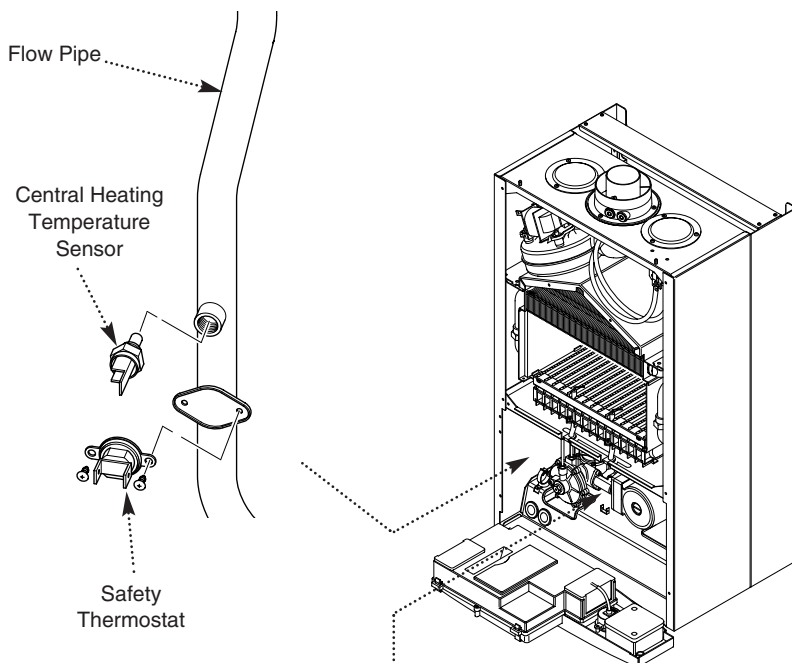

Fig. 54
12.9 Central Heating Temperature Sensor (Fig. 54)
12.10 Safety Thermostat (Fig. 54)